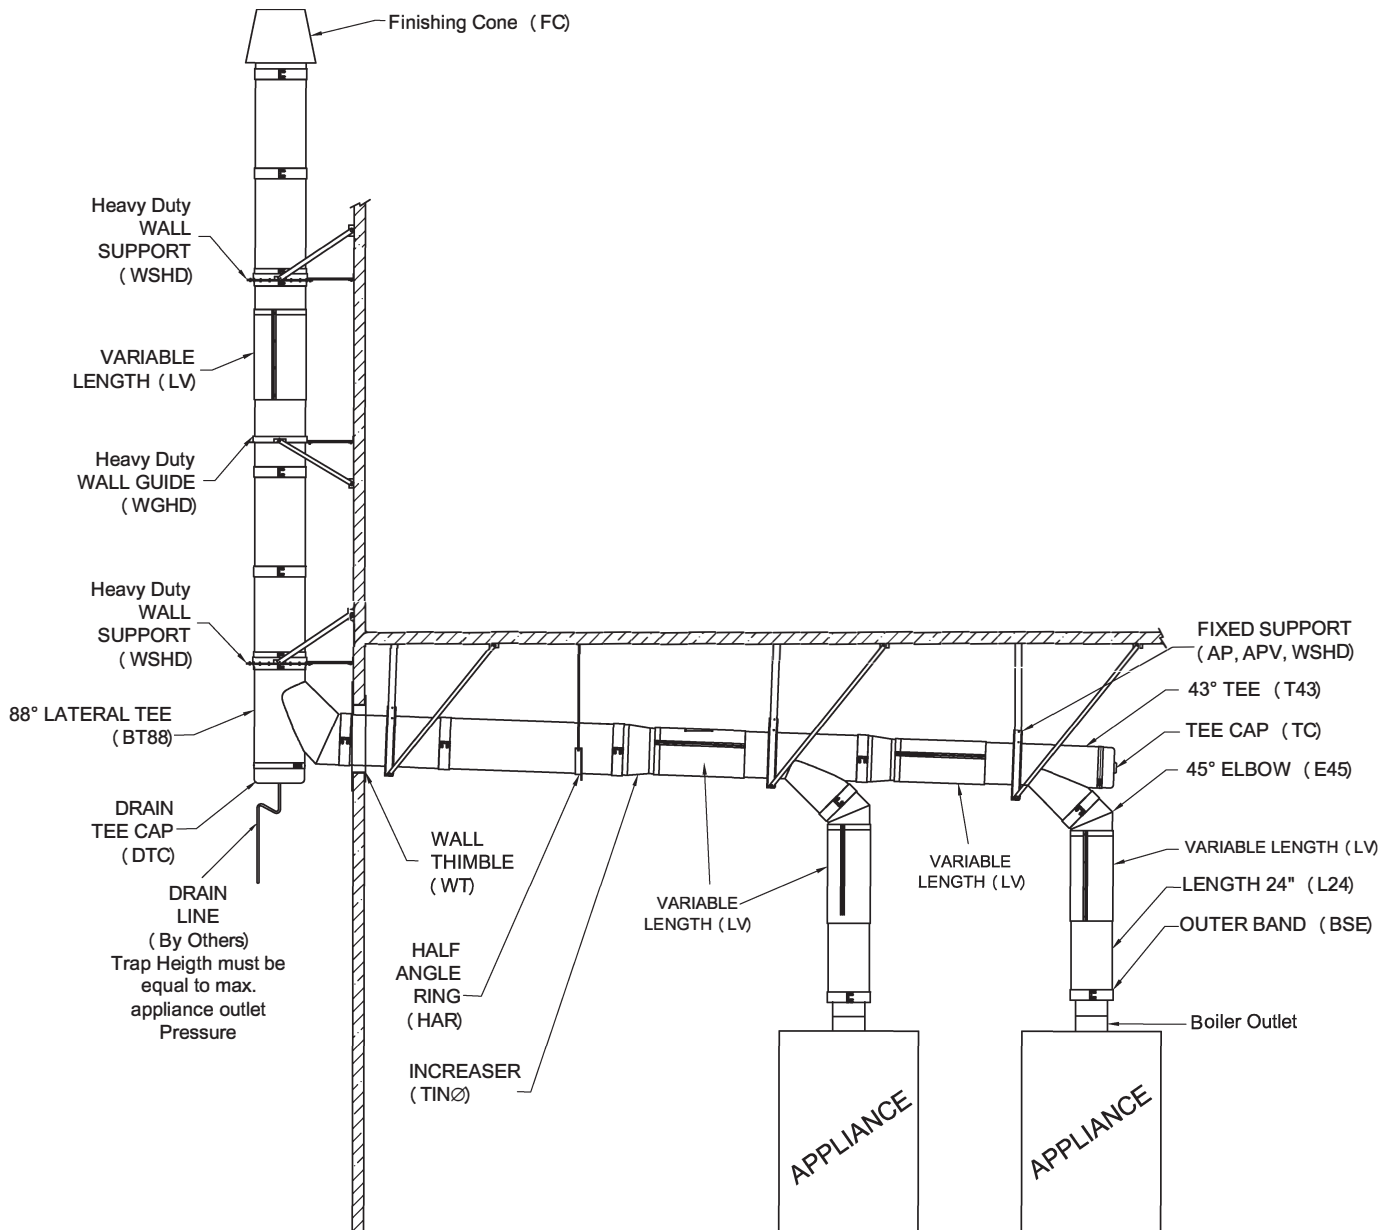

Figure 5- Typical installation for DAS1-(BC)
- DAS1-(BC) offers a range of tees and elbows that are built incorporating a 2 degree slope, we recommend that you use these to generate your slope.
- Remember, if you raise the appliance or lower the ceiling you must adjust the slope of the vent to maintain the 1/4" per foot minimum. See Figure 5 & 26.